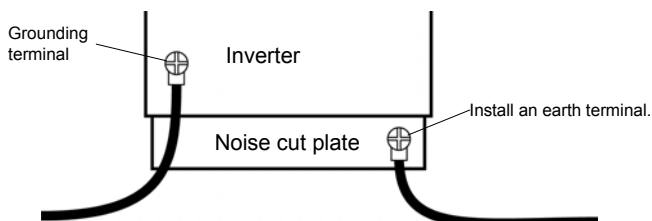

Fig. 4
- (1) Install the inverter in a cabinet and ground the inverter enclosure. When doing maintenance, be extremely careful not to put your fingers into the inverter through a wiring hole and touch a charged part, which may occur depending on the model and capacity of the inverter used.
- (2) Do not connect two or more wires to the main circuit earth terminal of the inverter. If necessary, install an additional earth terminal on the noise cut plate on which the inverter is installed and connect another cable to it. (Refer to Fig. 4.) See the Table 5 for earth cable sizes.
- (3) Install a non-fuse circuit breaker on the input side of the inverter.